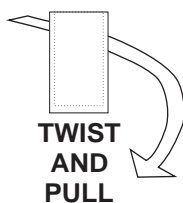

fig. 1
- Remove the protective cap by gently twisting and pulling it off the probe (see fig. 1).